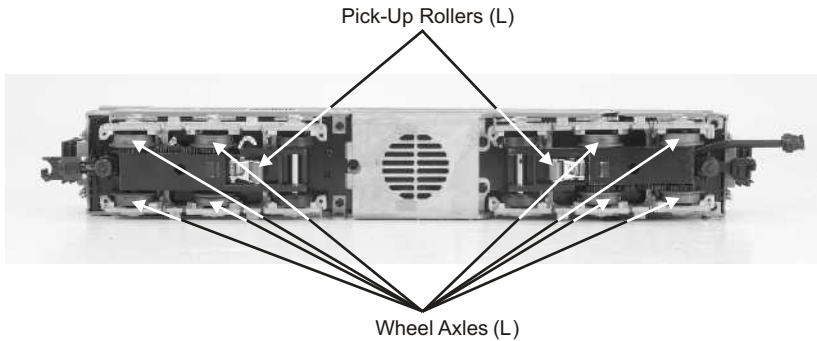

Figure 2 - Lubrication Points on the Engine
3. You should lubricate the wheel axles and pickup rollers to prevent them from squeaking. Use light household oil and follow the lubrication points marked “L” in Fig. 2 on page 9. Do not over oil. Use only a drop or two on each pivot point.
Remove shell by removing body mount screws shown in figure 2 on page 9. Once the body shell has been removed, disconnect the bulb harness from the socket on the constant voltage circuit and replace the bulb.